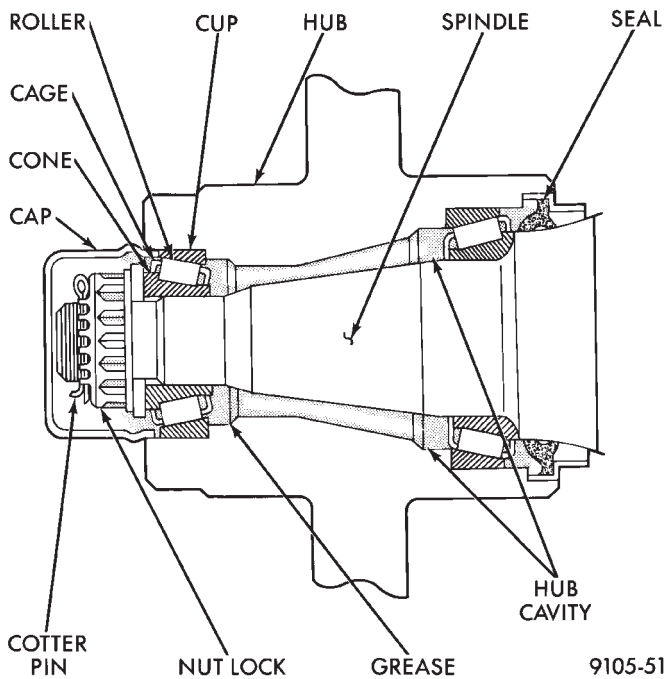

Fig. 1 Rear Wheel Bearings
- (1) Remove the rear tire and wheel assembly.
- (2) On rear disc brake equipped vehicles remove the caliper and rotor. Support the caliper out of the way. **Do not allow the caliper to hang by the hydraulic hose.** See disc brake section in this group for caliper removal procedure.
- (3) Remove grease cap, cotter pin, nut lock, nut, thrust washer and outer wheel bearing.
- (4) Carefully slide hub or drum from spindle. Do not drag inner bearing or grease seal over stub axle (thread, bearing, and oil seal may be damaged.) Using an appropriate tool remove the grease seal and inner bearing from the drum or hub. Discard grease seal, a new seal should be used when reinstalling the inner bearing. (See Fig. 1)
- (5) Thoroughly clean all old grease from the outer and inner bearings, bearing cups and hub cavity (See Fig. 1). **To clean bearings, soak them in an appropriate cleaning solvent. Strike the flat sur-**